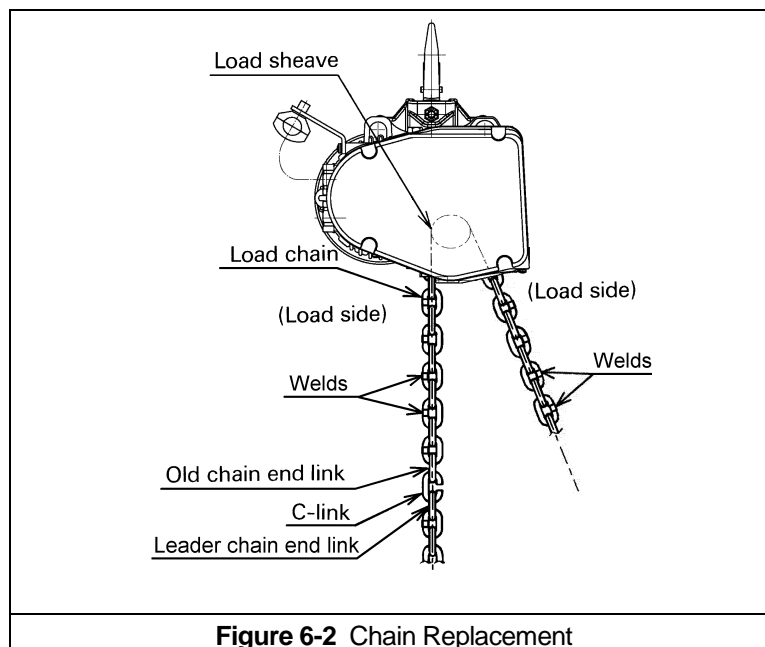

Figure 6-2 Chain Replacement
6.3.3 **OIL LEVEL** – Check the oil level is by removing the oil plug as shown in **Figure 6-2**. Insert a dip stick to check the oil from the oil check hole. Reference **Figure 6-3** and **Table 6-6** for check distances between the hole and the oil level.
- To drain the current oil from the hoist remove “Oil Plug” on top of the hoist and the “Oil Drain plug” on the bottom of the hoist. Allow the old oil to drain completely. Refer to **Figure 6-2** for oil plug locations.
- 4) Using a C-link, attach the new chain to the end link of the old chain on the no-load side. The end link of the new load chain should be connected so that the welded portions of the load chain's standing links are oriented to the outside as they pass over the sheave. Refer to **Figure 6-2**.